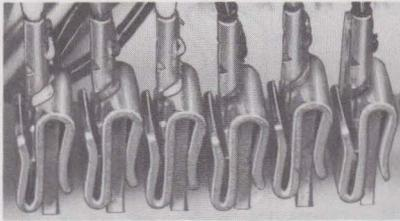

Fig. 10—Typical Installation of 161A Adapter on 66E-Type Connecting Block
4.02 Position the adapter over the terminal and press it onto the terminal as far as possible. Insert the spade tip and seat it firmly in the adapter. Fig. 10 shows the adapter and spade tip installed.
4.03 When 161A adapters are used on adjacent connectors, the adapters should be oriented so that possible shorting between connectors is avoided. Fig. 10 shows proper and improper orientation of the adapters. On the 66B connecting blocks with 3-terminal connectors, adapters should not be installed adjacent to each other on the middle two terminals due to the possibility of shorting the two individual 3-terminal sections of the row.